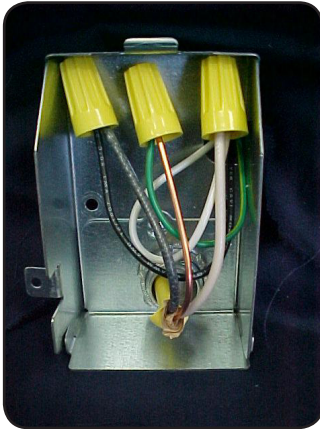

Figure 33
- 6 Press the wires into the junction box as shown in **Figure 33**. Make certain that the wire nuts do not loosen.